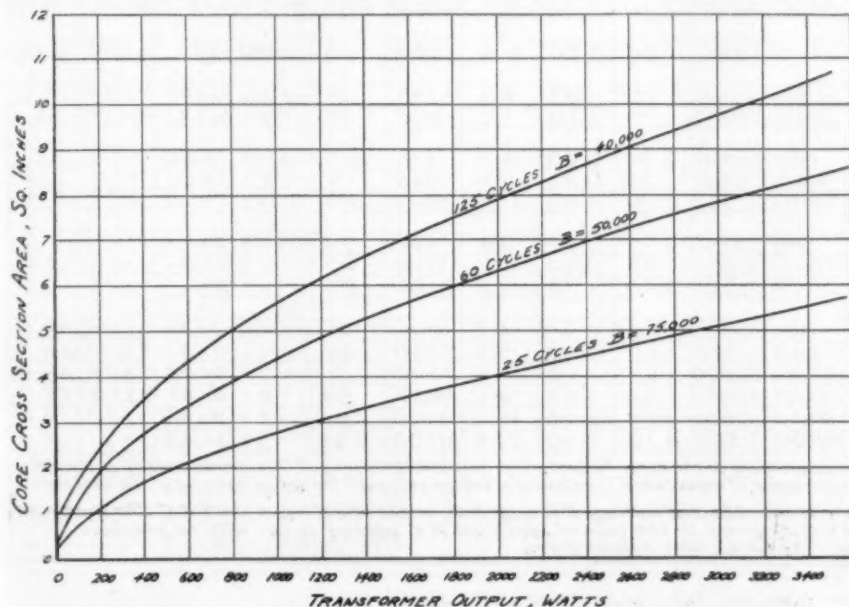

Fig. 1. Core Area Required for Given Output From Transformers.
Inspection of the 60 cycle curve of Fig. 1 shows that for 600 watts output a core section of 3.5 sq. in. is necessary. Substituting the given values in equation (1) the required primary turns